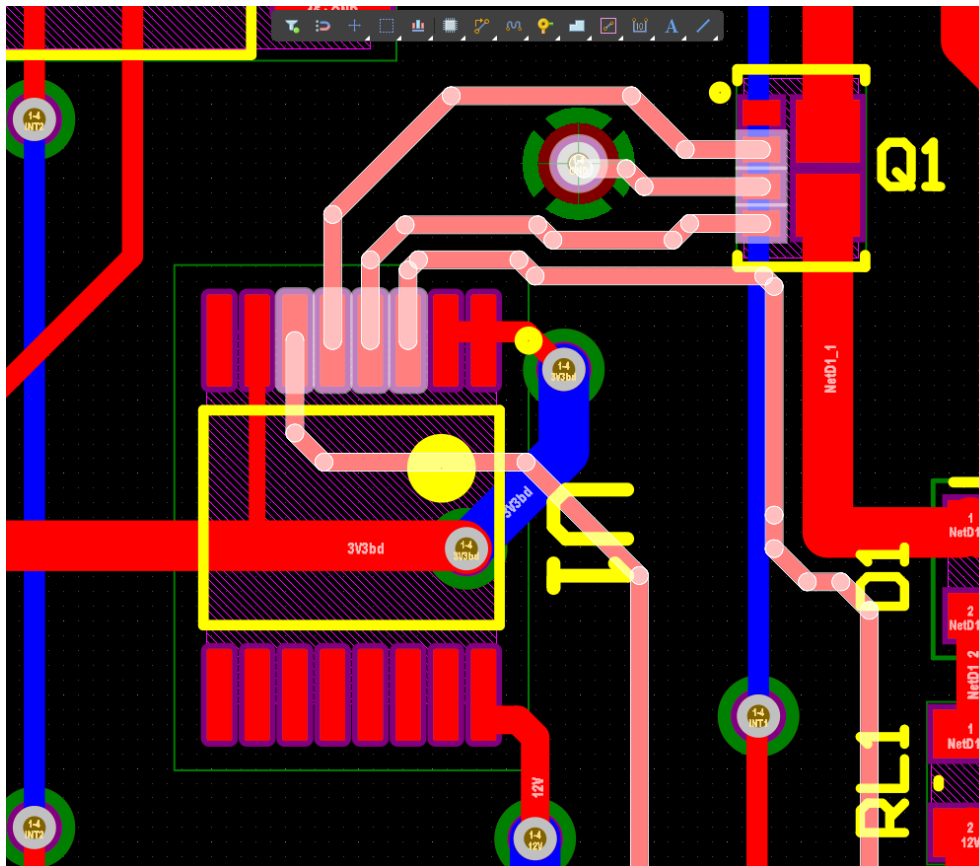

Figure 3. Selecting multiple traces with the Shift key and "Connected Copper" command
- a) While holding the **Shift** key, select the multiple traces on the 4 pads similar to Figure 3 below. You could also select multiple traces and hit the **TAB** key to select the connected copper.